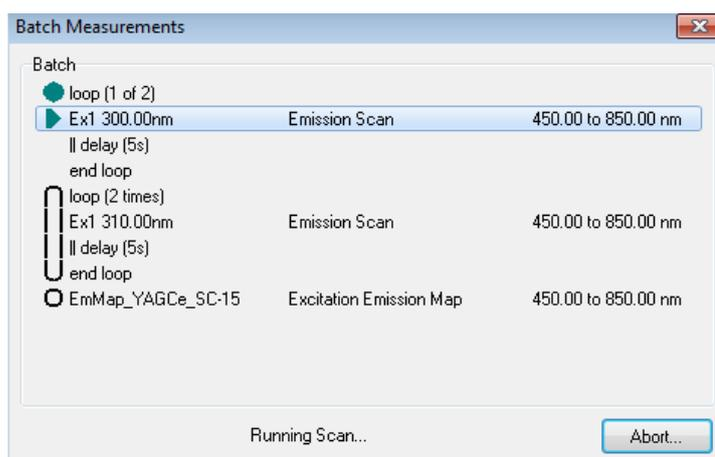

Figure 7-2: Batch Measurement progress window.
- 17-3 Press Run to start Batch measurements. The Batch Progress window (Figure 7-2) will appear and the currently performed stage of measurements will be indicated by green triangle. Every measurement will appear in a separate plot window.